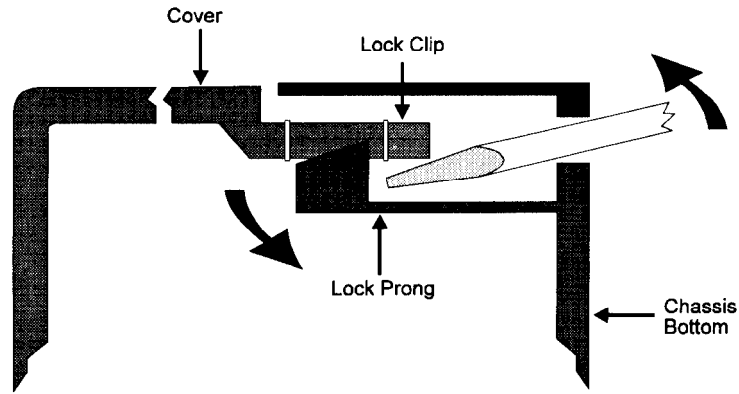

Figure 3-1
- Insert a medium size flat screwdriver blade in one of the bottom rear latch slots. Do not push the screwdriver but lightly pry the handle away from the unit as shown in Figure 3-1. This disengages the lock prong from the latch locks.